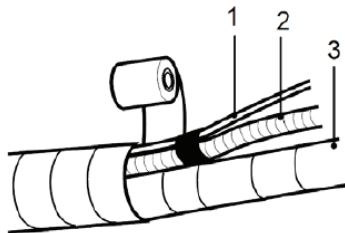

fig. 25 -
- After wrapping the pipes with protective material, connect the electric connection cable (1-"fig. 25 -"), the condensation drain hose (2-"fig. 25 -") and the pipes (3-"fig. 25 -").